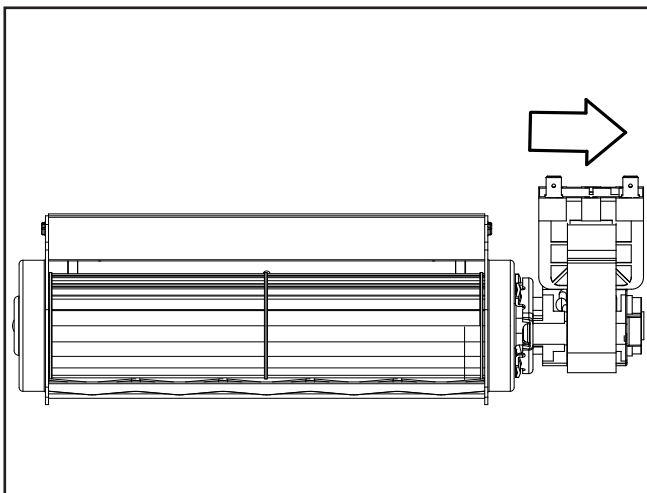
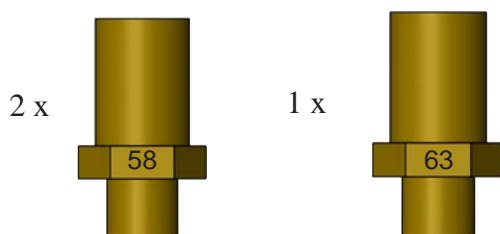
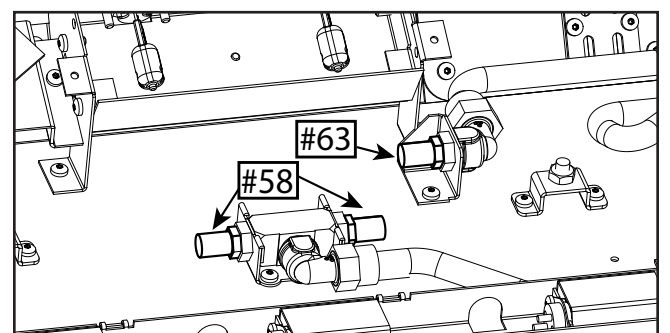

Figure 34: Pulling out the motor
Figure 38: Orifice Markings
Figure 39: Burner Orifice Locations
- Pull the motor slightly and rotate it 90 degrees counterclockwise into the next set of slots on the blade assembly (Figure 34).
5. Convert the burner pan orifices with the one provided in this kit using a **ratchet and 1/2" socket** (Figure 38). There are two #58 orifices that are for the elevated burners and one #63 orifice that is used for the pan burner. The markings can be found on the side of each orifice (See figure 39). For specific instal locations of each orifice see Figure 34.